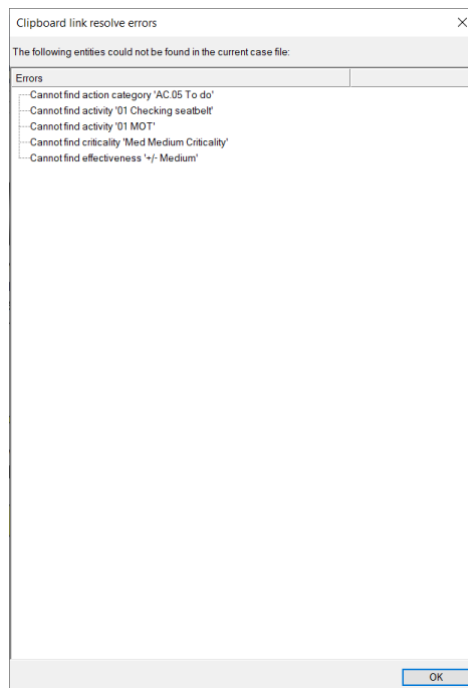

Figure 148 - Clipboard link resolve errors
6. A screen, like Figure 148 - Clipboard link resolve errors, pops up that shows the copy errors.